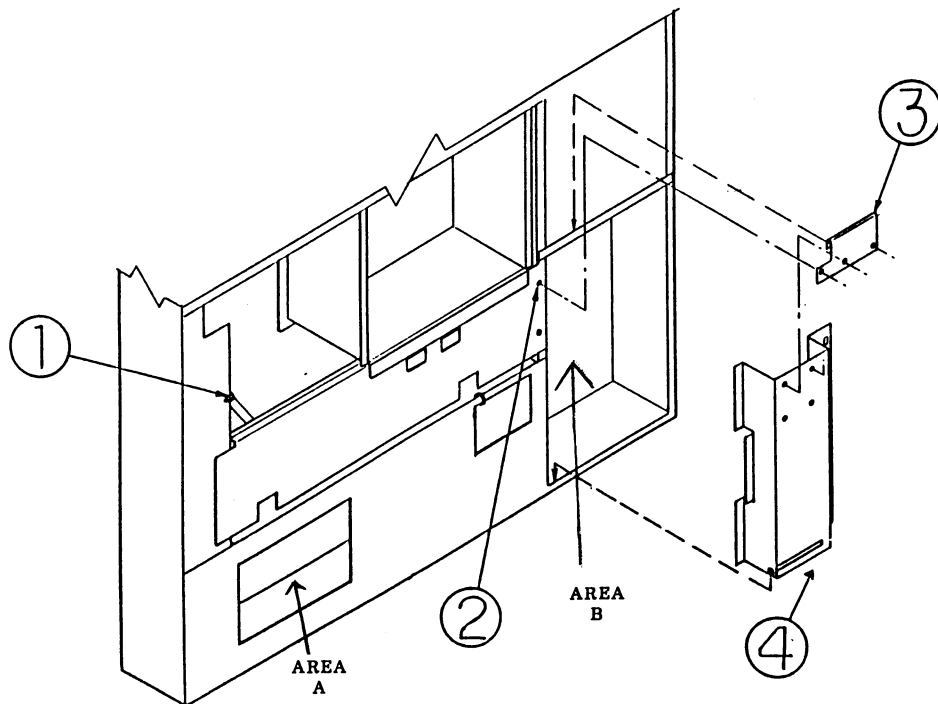

Figure 2
2. Cut the bottom left cable tie. (See Item 1, figure 2, page 4).
5. Thread the ballast and wiring through the opening of the door at the bottom left, (see Area A, figure 2, page 4) under the bottom light assembly, out through the control box (see Area B, figure 2, page 4) and into the area under the coin box.
7. Remove the top right screw from the bottom lamp bracket (see Item 2, figure 2, page 4) and save to install later.
8. Hook the relocation cover (Item 4, figure 2, page 4) to the bottom door frame. Note: Notches in the cover should sit over the bottom door flange. (See figure 2, page 4).
9. Hook the relocation cover bracket (805,800,62x.x1) over the edge of the coin box shelf. (See Item 3, figure 2, page 4).